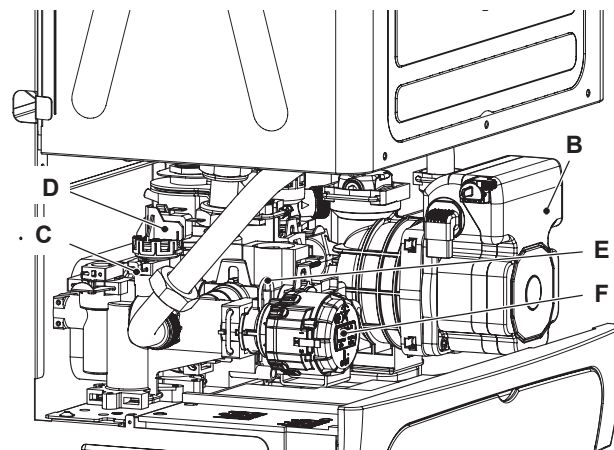

Figure 7.3
- 3 Remove the pump B in Figure 7.3 (see section "Removal pump" page 16).